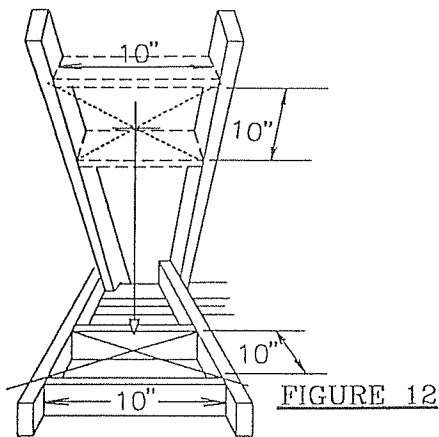

FIGURE 12
1. Having determined the air terminal location, cut or frame a hole in the roof with a minimum round or square opening of 10 inches being sure to maintain the required 1 inch clearance to combustibles (Fig.12).